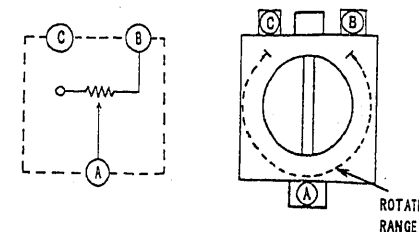

Fig. 3-3
2. Adjust (turn) the soldered semi-variable resistor within the range shown in Fig. 3-3